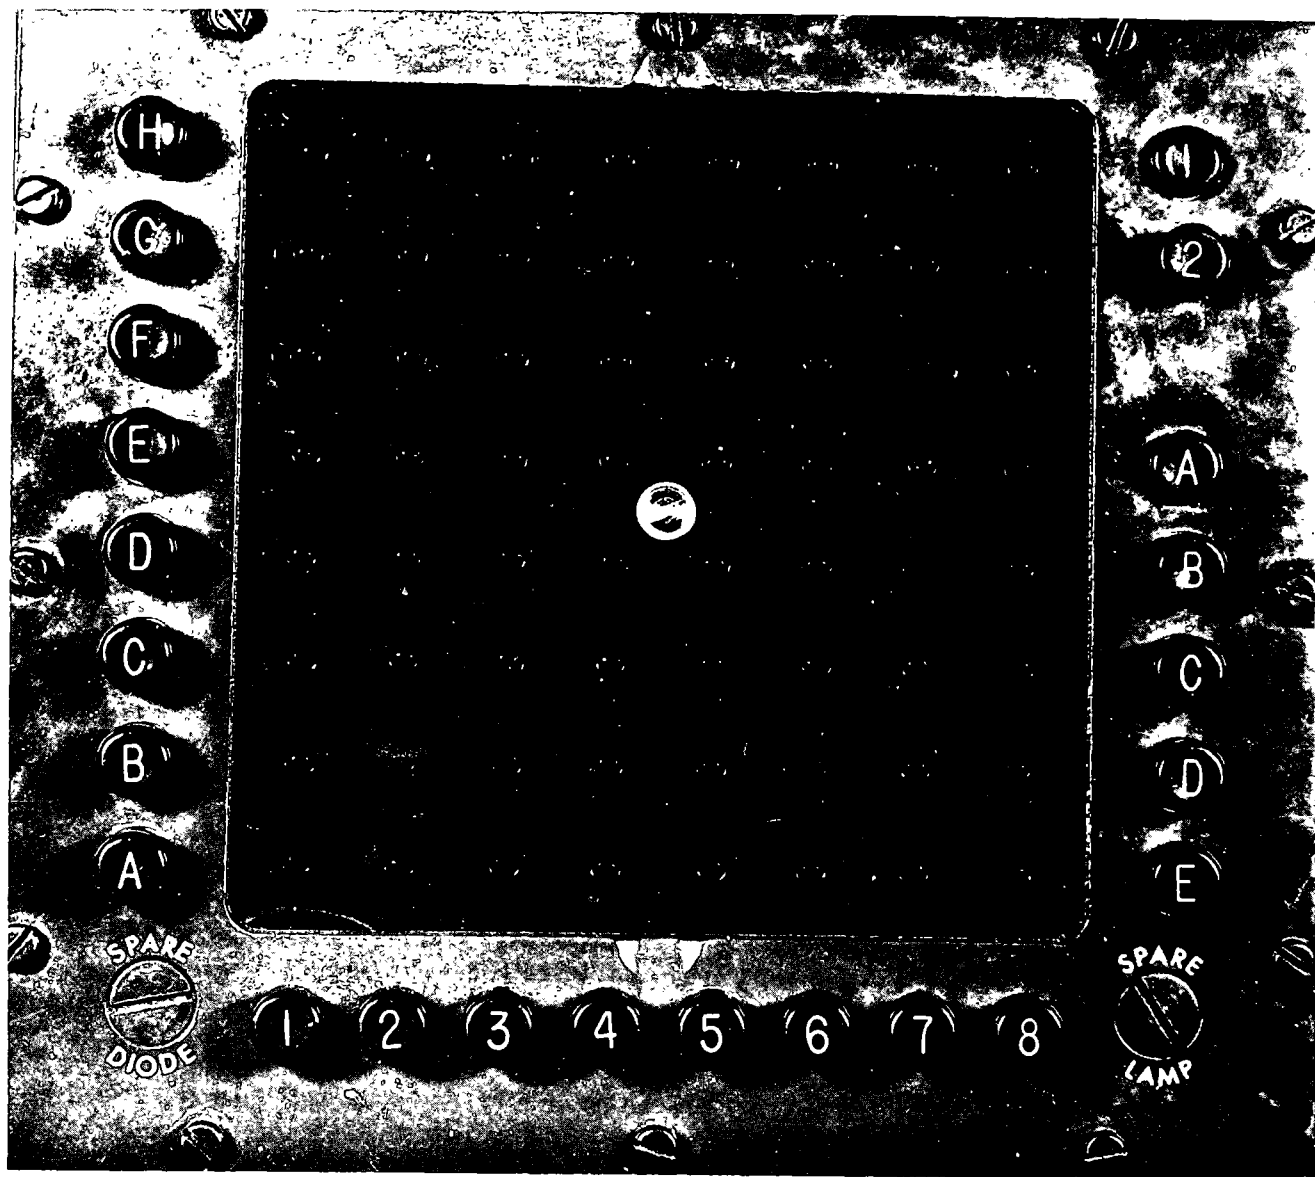

Figure 2-5. Matrix panel.
d. *Matrix Panel.* The matrix panel (fig 2-5)